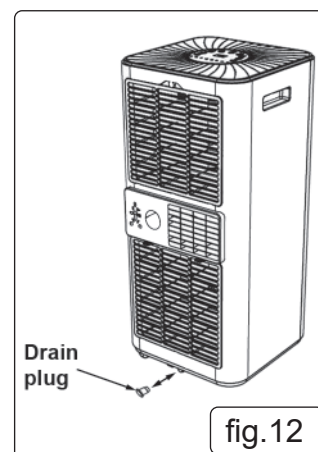

fig.12
- 6.5.3. With the container in place remove the drain plug (fig.12).